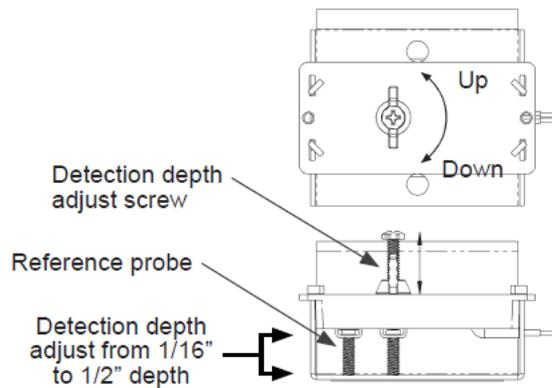

Figure 5: Remote Spot Sensor Depth Adjust
2. Adjust the depth screw with the wing nut to set the alarm depth for detecting leaks as shown in Fig. 5.